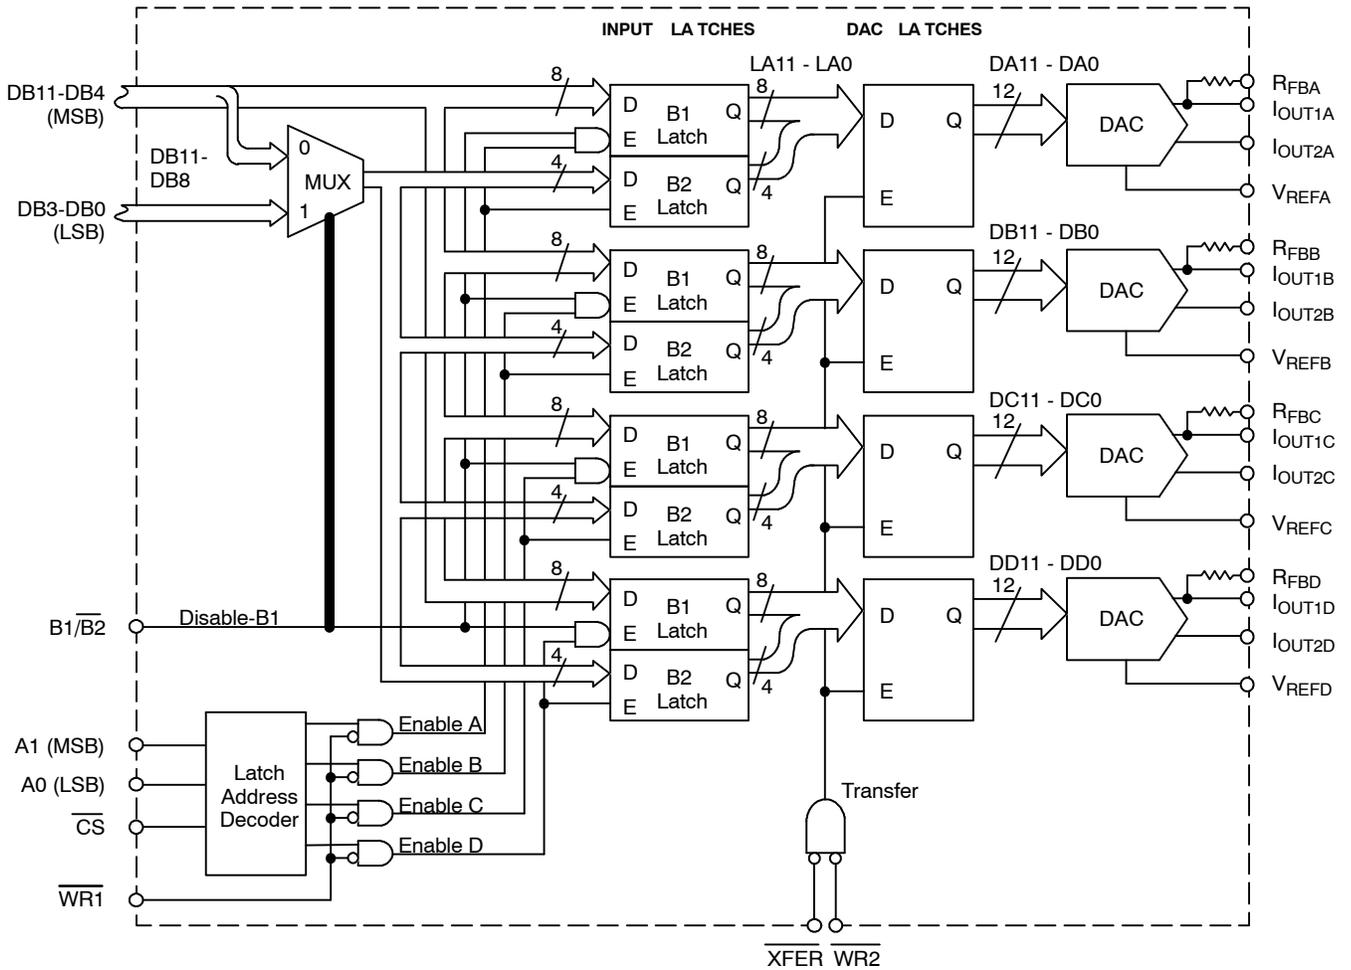
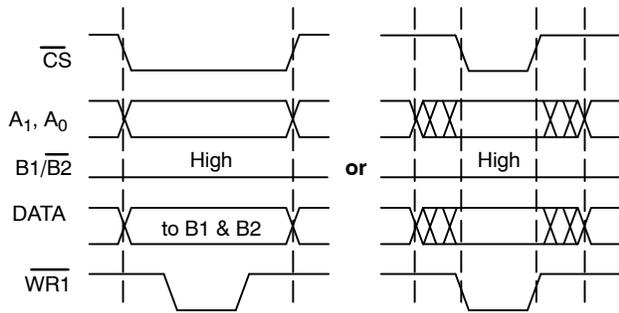
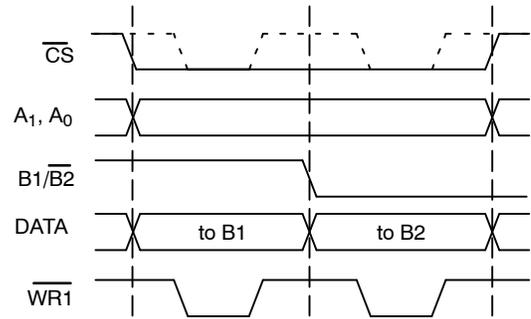

Figure 3. Latches Control Logic
Figure 4. 12 Bit Write Cycle
Figure 5. 8-Bit Double Write Cycle
Figure 3. shows the internal control logic. The logic that controls the writing of the input latches and the one that controls the DAC latches are completely separated. It is easy to understand how the MP7680/80A works by understanding each basic operation.
By keeping $B1/\overline{B2} = \text{high}$, a 12-bit bus has direct access to the 12 bits of the input latches. The condition $\overline{CS} = \overline{WR1} = 0$ loads the values contained in the data bus DB11-DB0 into the input latch addresses by A_1, A_0 (Figure 4., Table 1.).
(Figure 5.) During the second cycle the condition B1/ $\overline{B2}$ = low muxes DB11-DB8 to the B2 latches (Figure 3.).
- 1) Timing diagrams show the inputs \overline{CS} , A₁, A₀, DB11-DB0 to be stable during the entire writing cycle. In reality all the above signals can change (Figure 4.) as long as they meet the timing conditions specified in the Electrical Characteristic Table.
- 2) Only 16-bit bus cycles are shown in the next few examples of interface timing. It is possible to generate an 8-bit interface timing by replacing a single 12-bit write cycle (Figure 4.) with a double 8-bit write cycles (Figure 5.) 8-bit applications should ground inputs DB3-DB0.